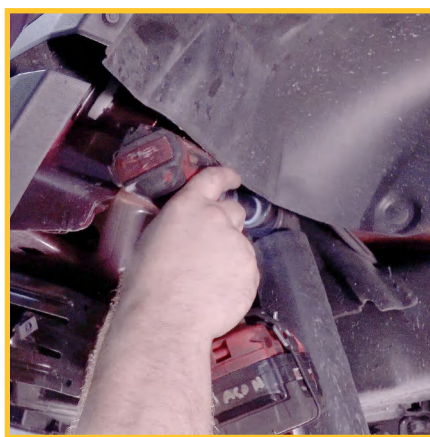

FIGURE 26
1. Remove the rear OE shock. (FIGURES 26, 27)